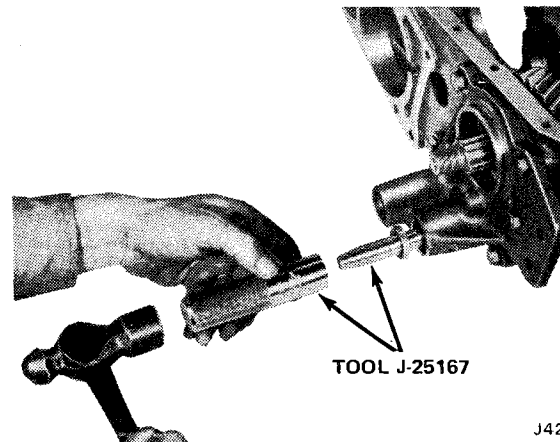

Fig. 2D-7 Shift Rod Oil Seal Installation
(4) Remove transfer case yoke nut and washer using Tool J-8614-01 (fig. 2D-8).